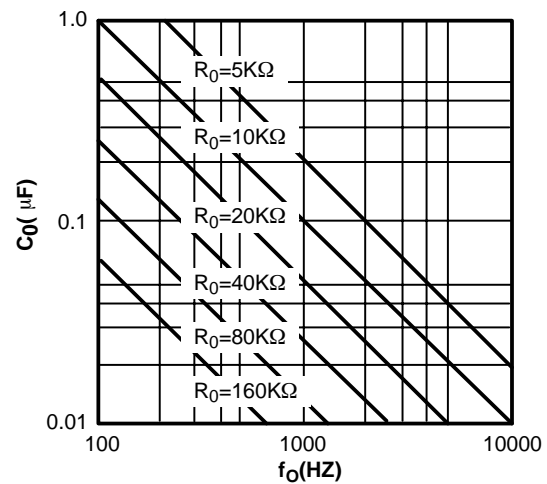

Figure 6. VCO Frequency vs. Timing Resistor
VCO Timing Capacitor (Pins 13 and 14): VCO frequency is inversely proportional to the external timing capacitor, C_0 , connected across these terminals (see *Figure 6*.) C_0 must be non-polar, and in the range of 200pF to 10 μF .
- Calculate value of C_0 from design equation (1) or from *Figure 6* $f_S = f_O$: